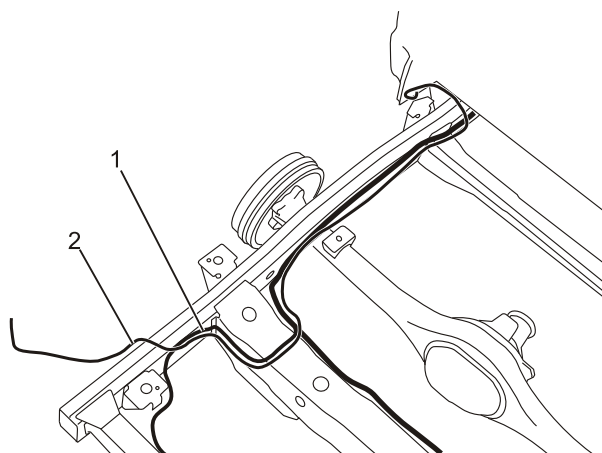

Figure 26
45. Run the canopy power harness along the vehicle body harness. Cable tie the two harnesses together at the locations where the vehicle body harness is attached to the chassis. Removing the vehicle spare wheel and the left hand side wheel arch liner will allow easy access to the vehicle body harness. Refer to Owner's handbook and eSI. Refer to figure 26.